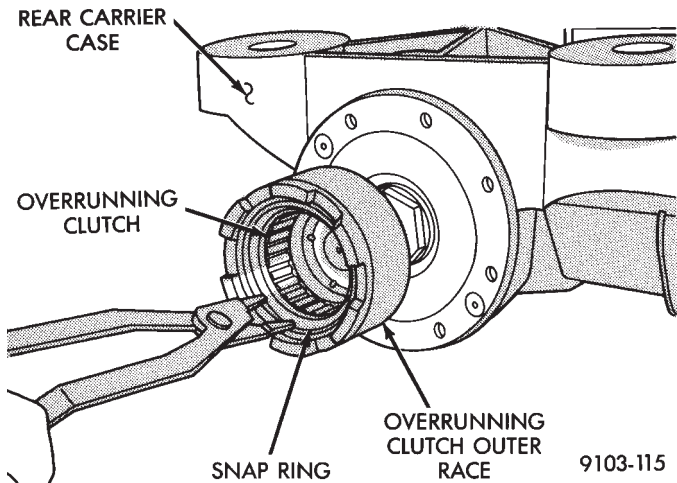

Fig. 8 Overrunning Clutch Snap Ring
(6) Remove overrunning clutch snap ring (Fig. 8).